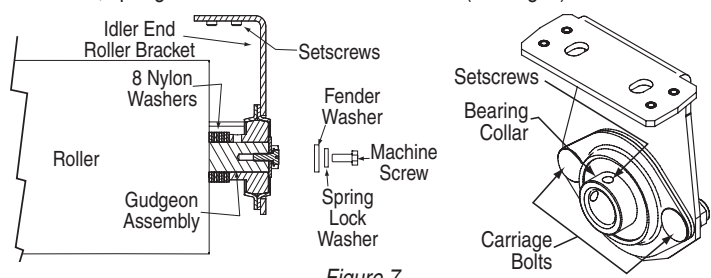

Figure 7
- ⚠ Caution: Do not allow bracket to rotate and fall out of channel!** Align the bracket into the housing and tighten all four of the set screws. Lock the roller assembly into place on the mounting bracket with the fender washer, spring lock washer and machine screw (see Fig. 7).